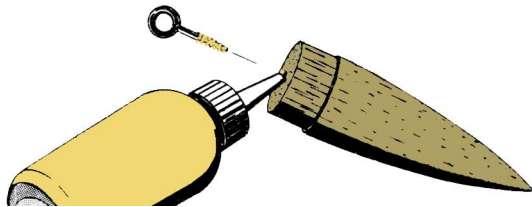

Figure 5
- **Step 7** Use the screw eye to cut threads into the base of the nose cone, then carefully reverse the screw eye out of the hole. As shown in Figure 5, apply glue to the threads of the screw eye, and force glue into the hole. Re-insert the screw eye until it bottoms out. Do not wipe away the glue that squeezes out. Let the glue dry with the nose cone pointed downward.